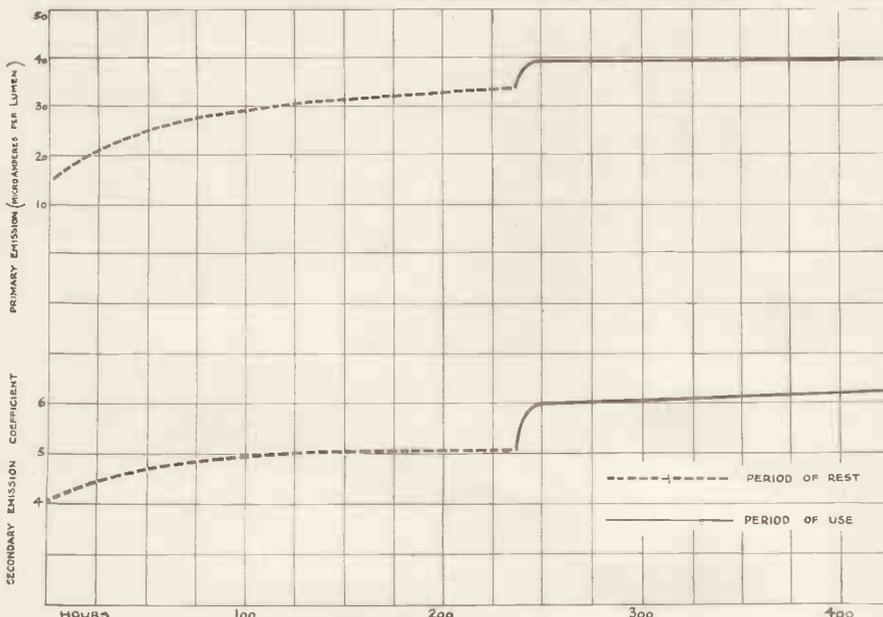

Fig. 6.—Variation in primary emission and secondary emission.
*Life.*—Fig. 6 shows the variation in primary emission and secondary emission coefficient from a typical cell when out of circuit and when in service. During the life tests the overall voltage was 480 with an illumination which gave a total current of 5 to 5  $\mu$ a. For convenience in testing the values shown in Fig. 5, however, were measured with an overall voltage of 340.